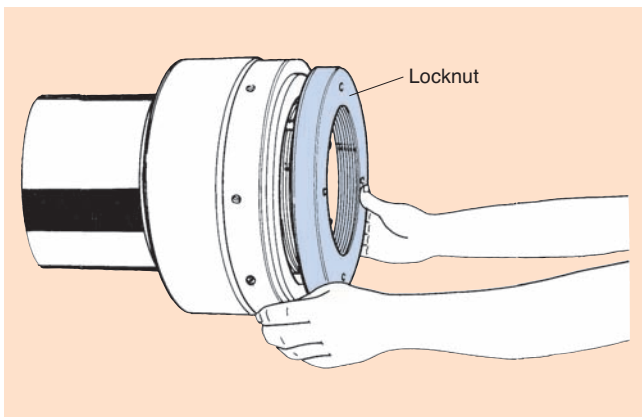

Fig. 30
- (2) After installing the hydraulic nut, install a locknut that suits the installation shaft as shown in Fig. 30.